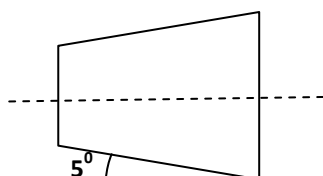

Fig.1
- (II) A cylindrical bar has a blind hole of 15 mm diameter. Its face is being turned from inner diameter to the outer periphery at a speed of 600 RPM, feed rate of 0.3 mm/rev, and depth of cut of 1.0 mm. Find out the cutting speed and the total volume of material removed at the end of 15 seconds. **[5]**
- (b):** If 'L' is the length parallel to the axis of a tapered job (Fig. 1) to be turned 'd' is diameter, 'f' is feed rate and 'N' is spindle speed. Write in terms L, f, etc., the time taken to complete a single pass turning operation. Assume 5° as the taper angle.